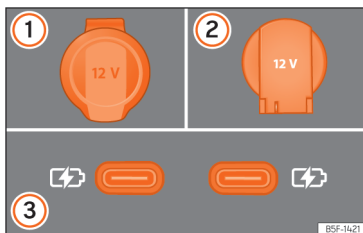

Fig. 163 Vehicle 12 volt socket.
»» Fig. 163
Depending on the equipment and the country, the vehicle may also have USB connections **exclusively for charging or as a power socket** »» Fig. 163 ③.